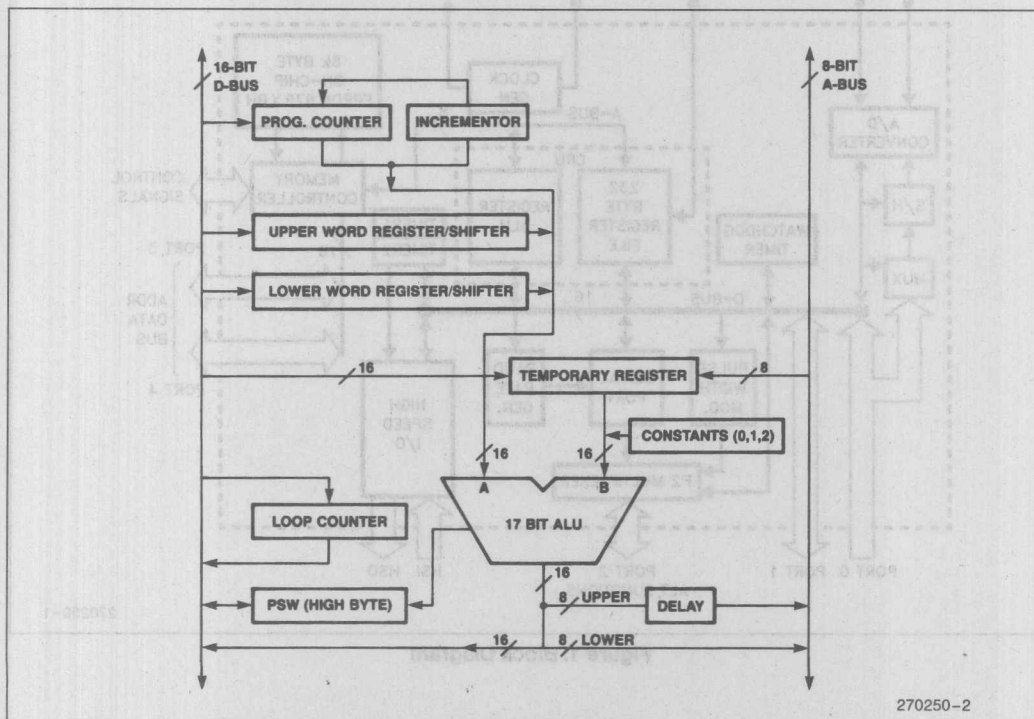

Figure 2. RALU Block Diagram
Most calculations performed by the 8096BH take place in the RALU. The RALU, shown in Figure 2, contains a 17-bit ALU, the Program Status Word (PSW), the Program Counter (PC), a loop counter, and three temporary registers. All of the registers are 16-bits or 17-bits (16+ sign extension) wide. Some of the registers have the ability to perform simple operations to off-load the ALU.
The DELAY shown in Figure 2 is used to convert the 16-bit bus into an 8-bit bus. This is required as all addresses and instructions are carried on the 8-bit A-Bus. Several constants, such as 0, 1 and 2 are stored in the RALU for use in speeding up certain calculations. These come in handy when the RALU needs to make a 2's complement number or perform an increment or decrement instruction.